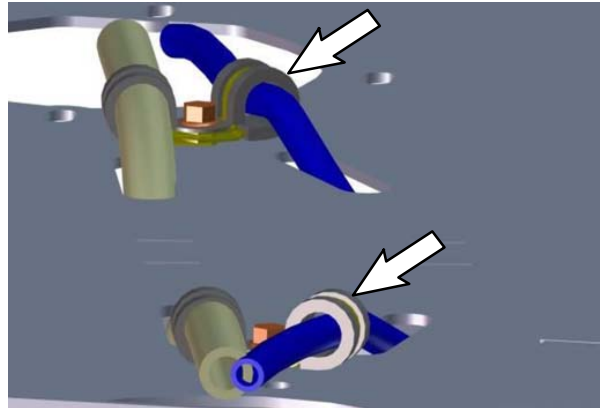

FIG. 46
46. **Machines with disk scrub heads:** Use two insulated cable clamps (45) to secure the two 9.5 in. (241 mm) 0.25 ID PVC hoses to the scrub head. (Fig. 46)